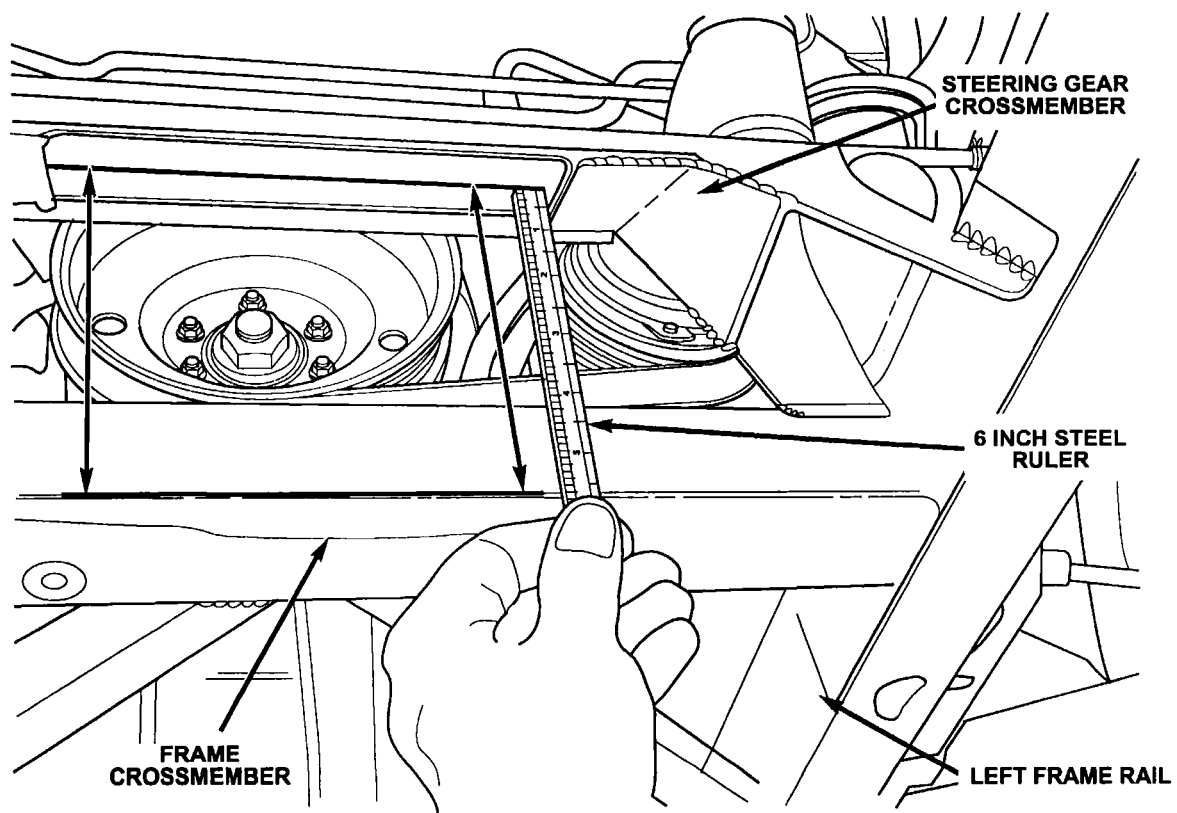

Figure 3
- Using a 6-inch steel ruler, measure the distance from the inside rear edge of the steering gear crossmember to the lower edge of the frame crossmember. Perform this measurement procedure on the right and left side of the steering crossmember (Figure 3). Record these measurements for future reference.